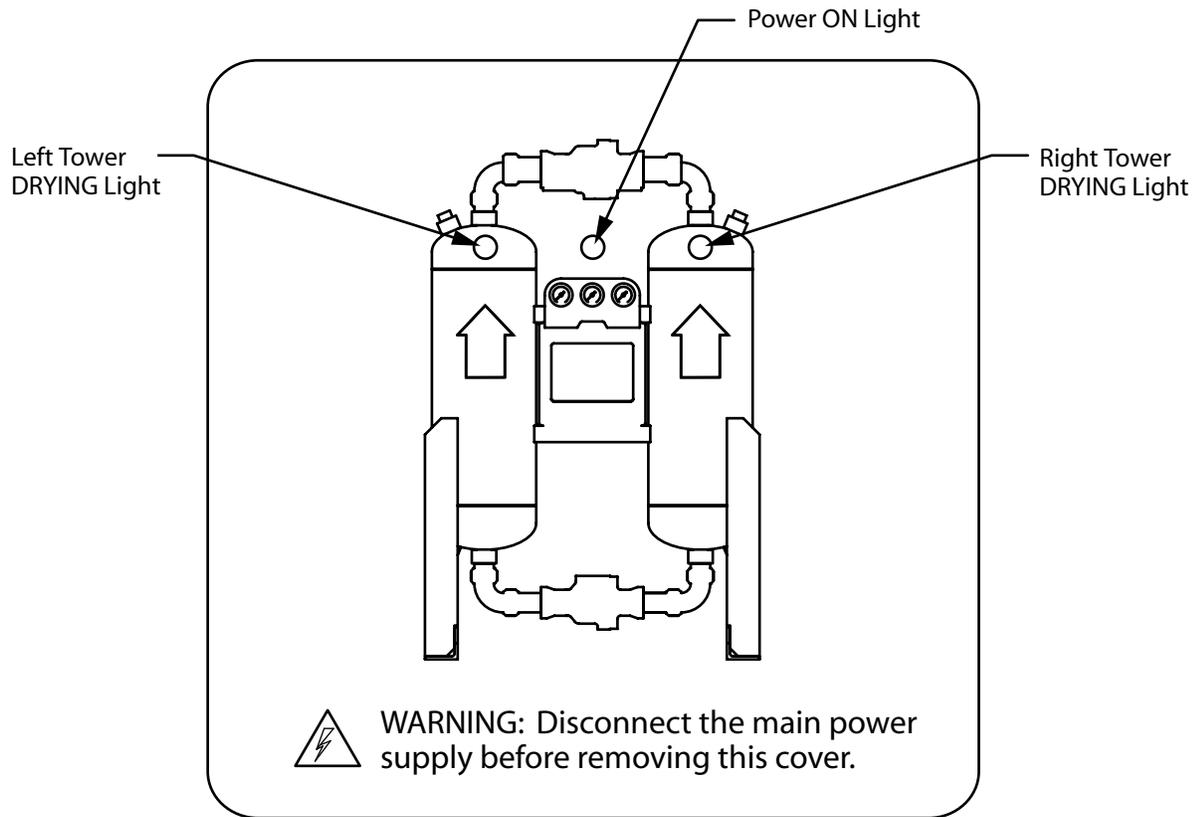

Figure 6-1
- Figure 6-1, Front Panel Overlay